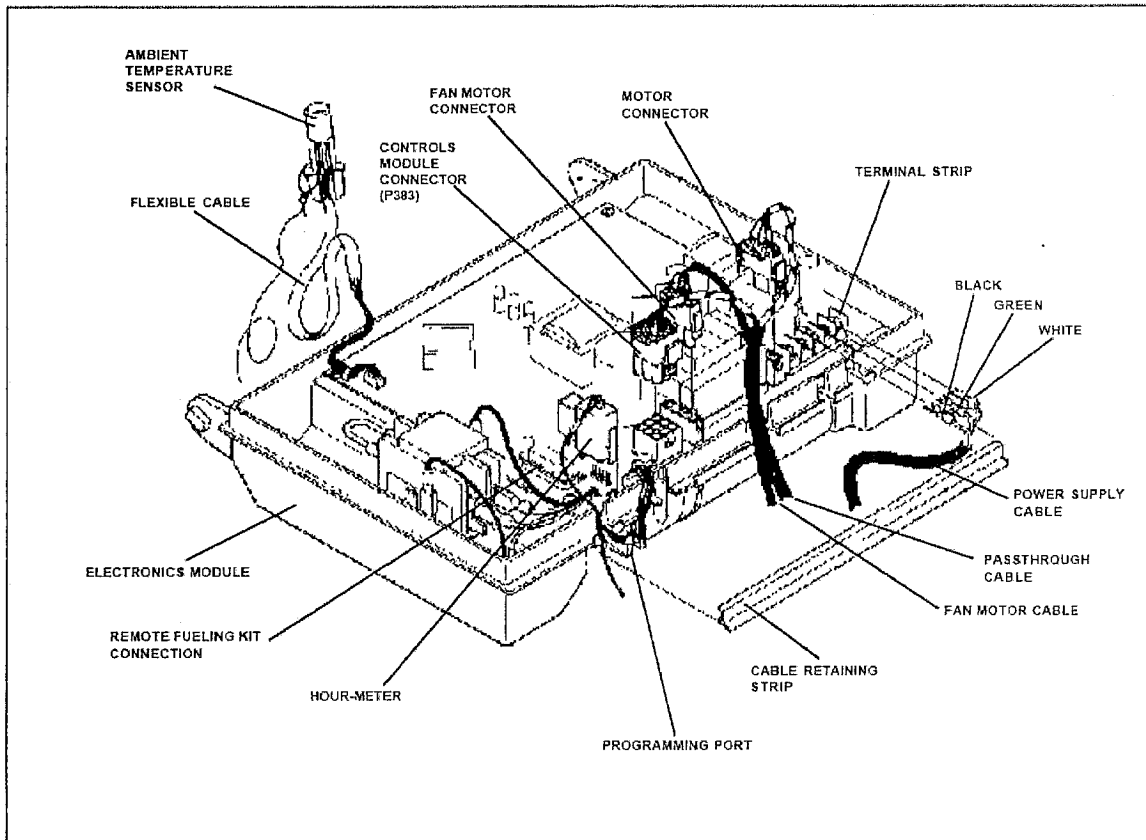

Figure 17 Electronics Module Connections
- Disconnect the *hour-meter* from the *Electronics Module* circuit board (See Figure 17).
- Unplug the two connectors on the end of the *passthrough cable*, from the *Electronics Module* (See Figure 17).
- Disconnect the power supply wires at the terminal strip on the *Electronics Module* (See Figure 17).
- Disconnect the power supply wires from the terminal strip located on the *Electronics Module* circuit board (See Figure 17).
- Re-establish all connections that were previously removed, according to the "*Electronics Module Removal*" instructions (See Figure 17).
The Programming Port is located on the underside of the *Electronics Module* ( See Figure 17). To change settings, refer to the Section 3.3 "Field Programming" in this manual.
- Disconnect the power supply wires inside the junction box and not at the terminal strip on the *Electronics Module* (See Figure 17).